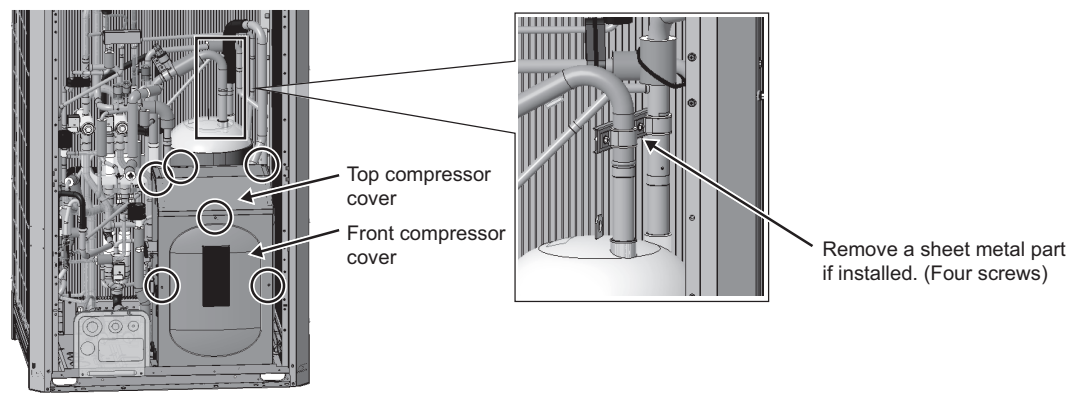

Fig. 4
(4) Remove the front and top covers of the compressor. (Six screws: Fig. 4)